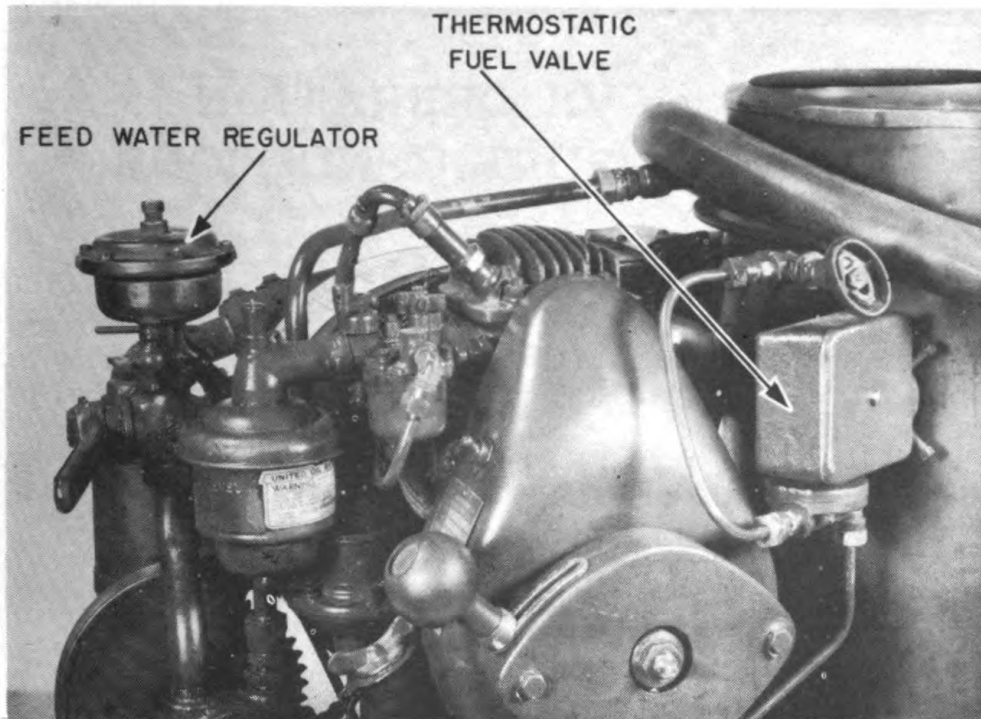

Fig 21. Regulating devices.
a. General. By regulating devices are meant those parts which regulate the flow of liquids through the piping. There are two -- thermostatic fuel valve and feed water regulator. Locations of both are shown in figure 21.